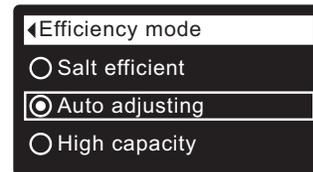

FIG. 89
8a. Efficiency mode: If the desired efficiency mode already has a dot next to it (See Figure 89), go to Step 9. Otherwise, press the DOWN (▼) or UP (▲) buttons to scroll to the desired efficiency mode, then press SELECT (O) to choose it.